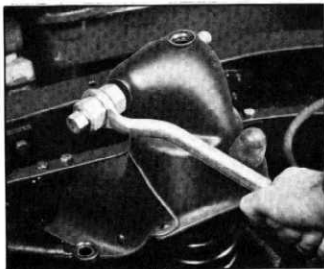
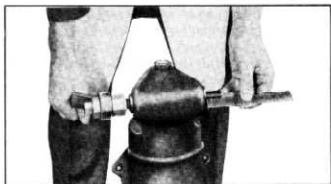

Fig. 25—Installing Upper Control Arm Shaft
Fig. 26—Locating Shaft in Spring Housing
2. Install new upper control arm shaft into spring housing from front to rear using Upper Control Arm Shaft Remover and Replacer J-2958 (fig. 25). Drive shaft into housing until end projects out back of spring housing $1\frac{1}{8}$ " (fig. 26). Remove tool.